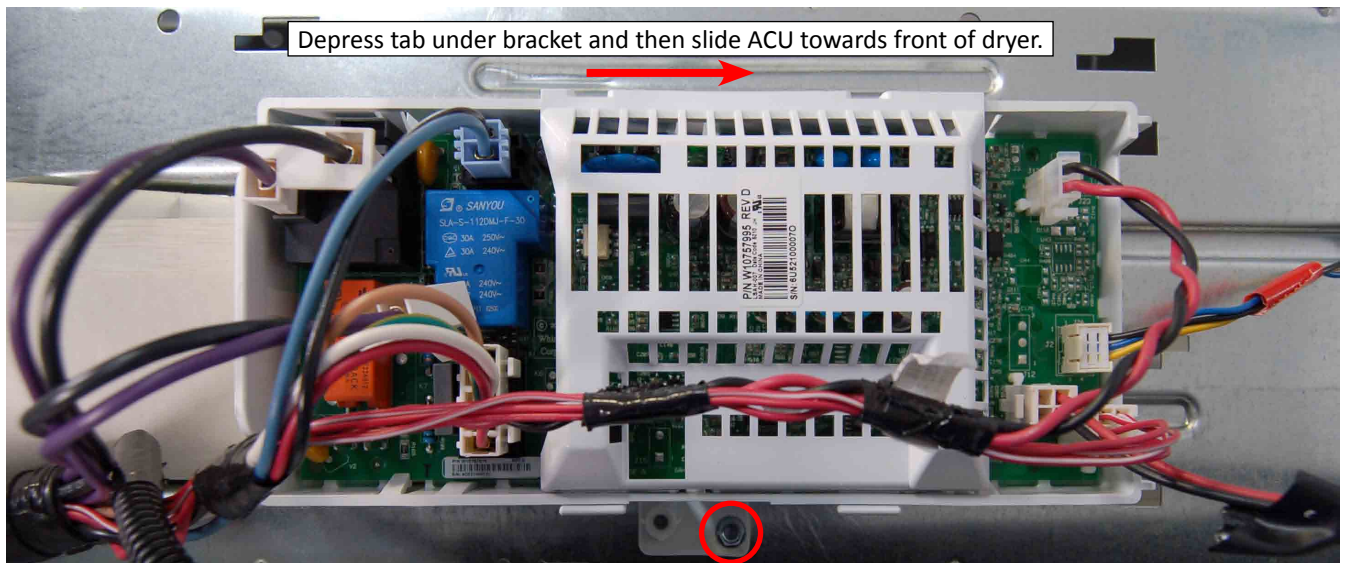

Figure 2 - Appliance Control Board
4. Using a 1/4" nut driver, remove the one (1) hex-head screw securing the ACU to the control bracket (location circled in Figure 2).